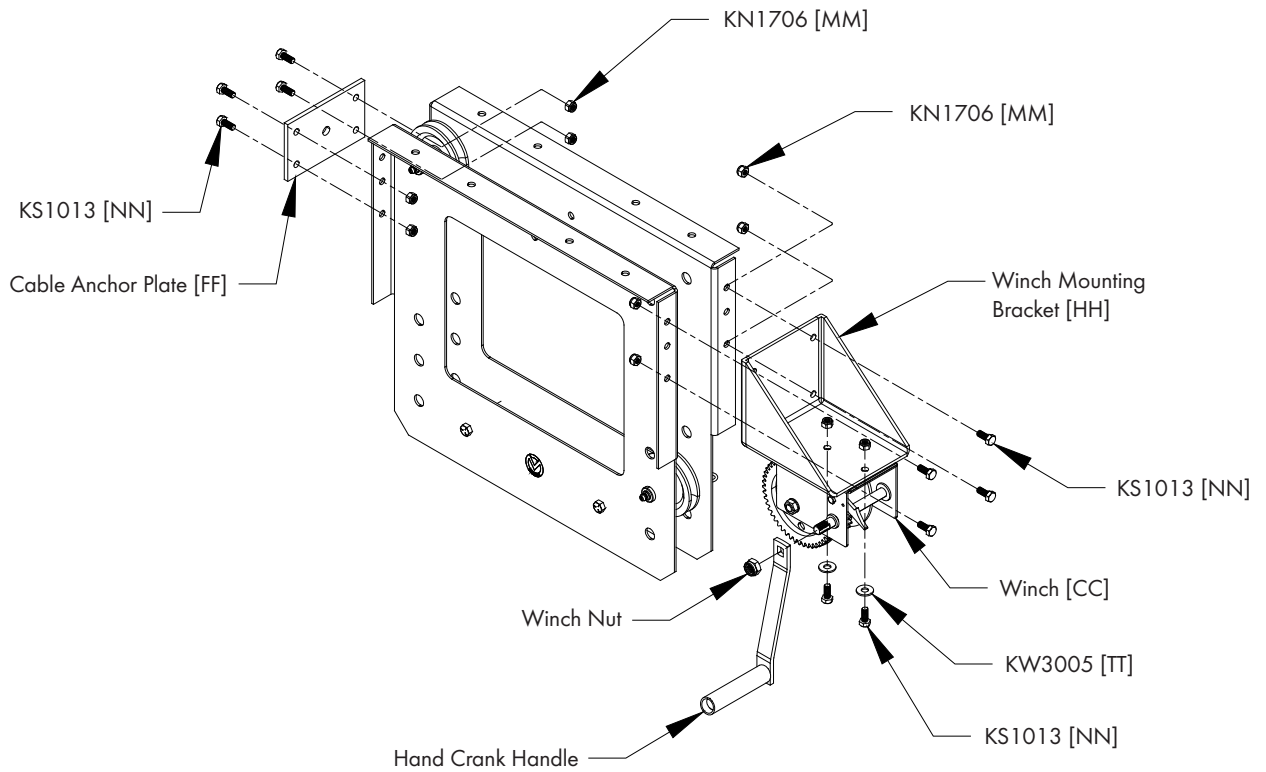

Figure 21
Attach the Cable Anchor Plate [FF] and Winch Mounting Bracket [HH] using (8) KS1013 Bolt [NN] and KN1706 Nylock Nuts [MM]. See Figure 21.
Attach the Winch [CC] to the Winch Bracket using (2) KS1013 Bolts [NN], KW3005 Washer [TT] and KN1706 Nylock Nuts [MM]. Then attach Hand Crank Handle to Winch using Nut provided on Winch Shaft. See Figure 21.